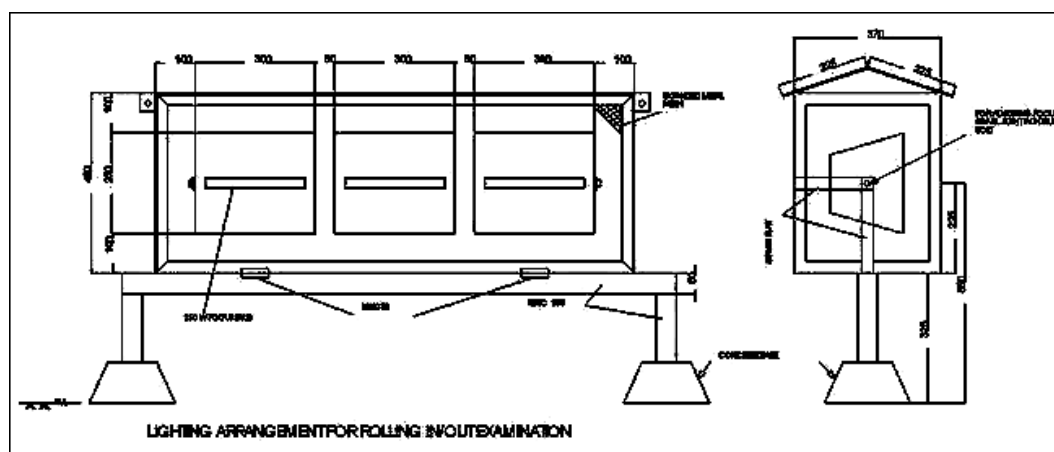

Figure: 2.6 Lighting Arrangement for Rolling in/out Examination
- ii) For rolling in examination of train it has to be ensured that proper lighting arrangement is provided on both the sides of the track at nominated spots for examination of under gear parts during night. Focusing of lights shall be done by keeping a coach on the line and adjusting the angle of light to illuminate under gear and bogie. Use of fixed lights as indicated in figure 2.6 is preferable.